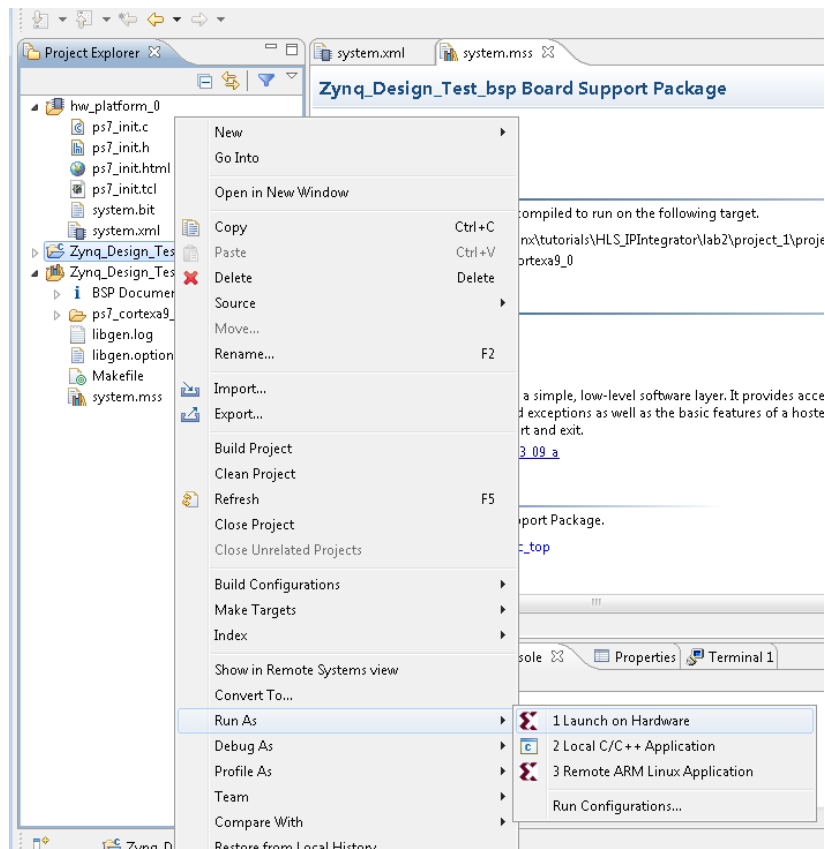

Figure 242: Run the Application Project
12. Right-click the application project **Zynq_Design_Test** in the Explorer pane (Figure 242).